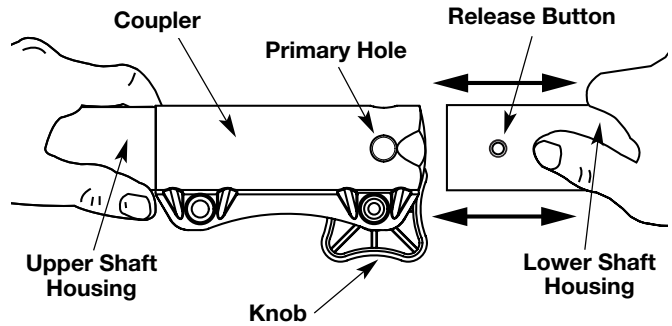

Fig. 2
3. While firmly holding the upper shaft housing, pull the turbo blower add-on out of the coupler (Fig. 2).
3. While firmly holding the add-on, push it straight into the coupler (Fig. 2).
CAUTION: Lock the release button in the primary hole (Fig. 2) and securely tighten the knob before operating this unit.